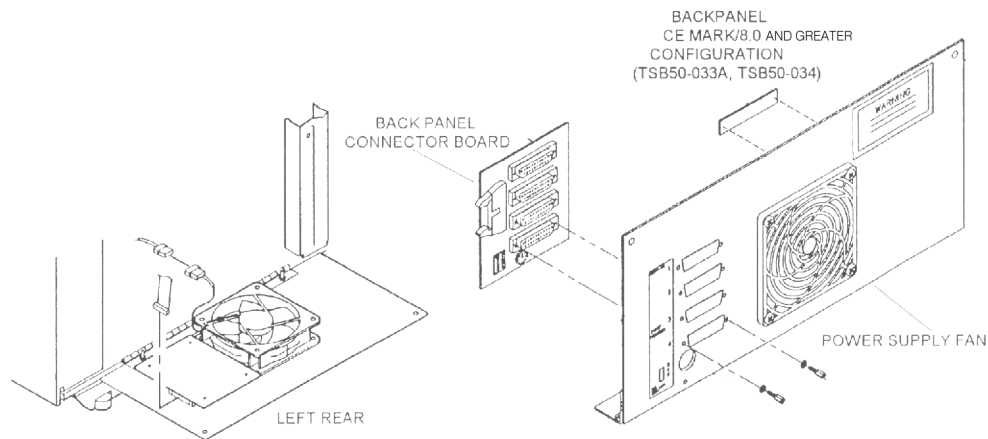

Figure 4-53. Back Panel Connector (RS-232) Bd
3. Disconnect cable from Back Panel Connector Bd (**Figure 4-53**).